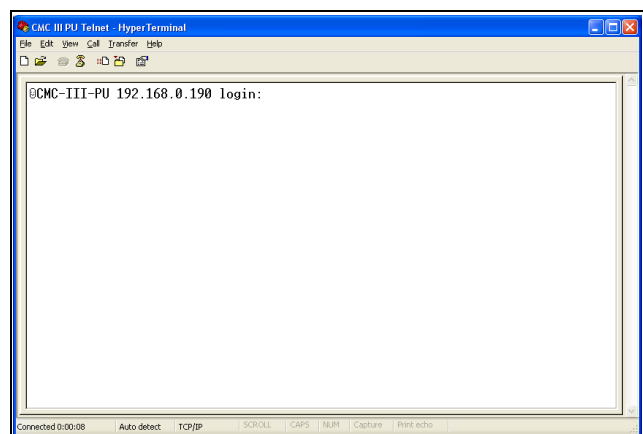

Fig. 16: Login page
- Press the "Return" key once to display the login page. This corresponds to the login page for a Telnet connection (fig. 16).